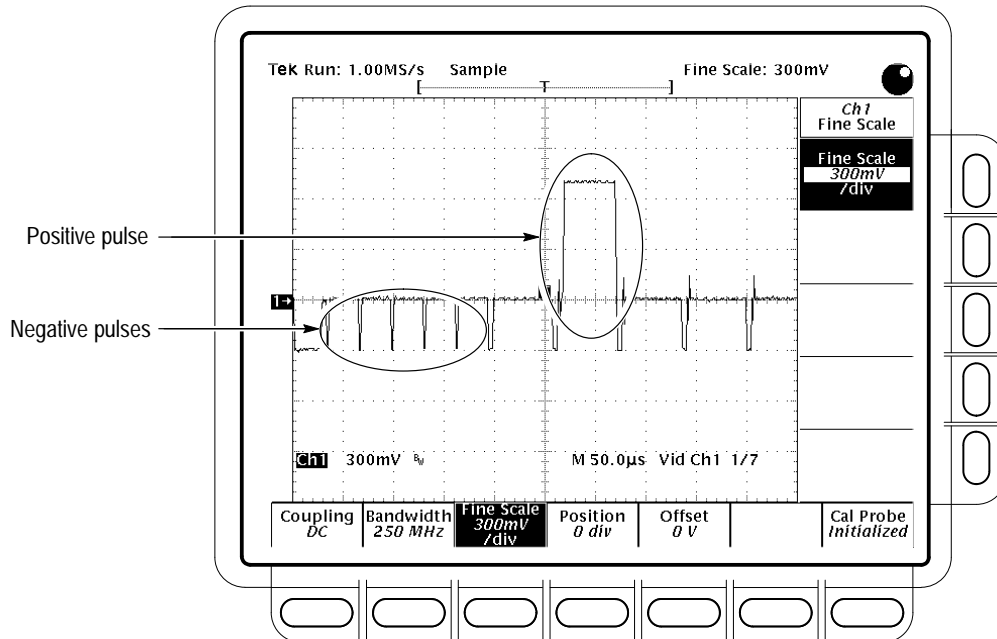

Figure 1–29: Triggered Signal Range Test – 300 mV
- m. CONFIRM that the **TRIG'D** LED stays lighted and that the waveform on screen is stable. That is, it does not move horizontally or vertically. Also, CONFIRM that the waveform on the screen has one positive pulse and a number of negative pulses. See Figure 1–29.
- o. CONFIRM that the **TRIG'D** LED stays lighted and that the waveform on screen is stable. That is, it does not move horizontally or vertically. Also, CONFIRM that the waveform on the screen has one positive pulse and a number of negative pulses. See Figure 1–30.